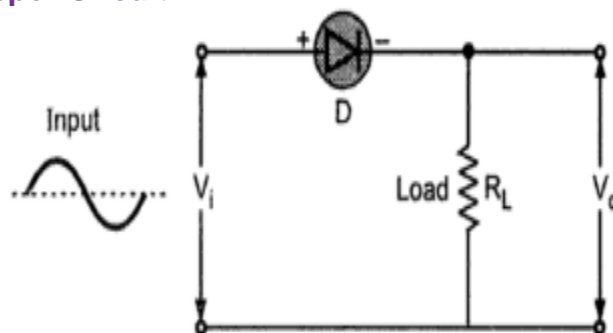

Fig. 2.14 Negative series clipper
- Consider a circuit shown in the Fig. 2.14 where diode is connected in series with the load.